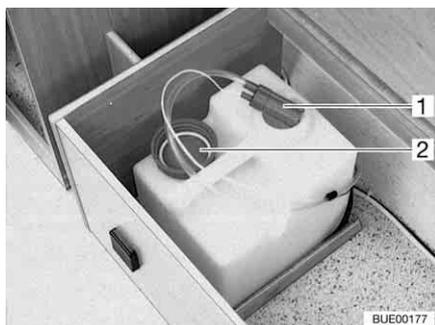

Fig. 162 Water tank 16 l
When transporting the water tank, close it with the cap (Fig. 162,2).
- Pull the water pump (Fig. 162,1) out of the water tank.